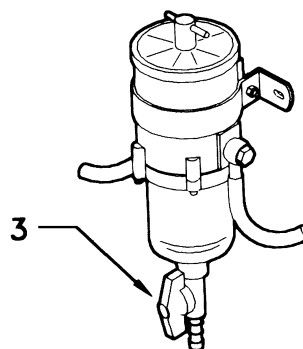

Fig. 7.2.9.
Loosen the wing nut (3) (Fig. 7.2.9.) located at the lower side of the glass vessel and let go all the accrued water. Shut again off the wing nut and check it does not drip.